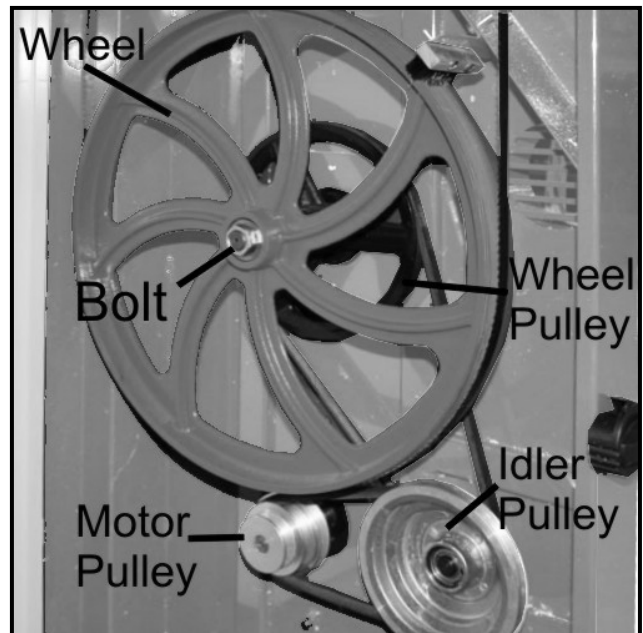

Figure-37 Lower wheel and pulleys
4. Remove the lower wheel by removing the hex bolt securing the wheel to the saw body. See figure-37.